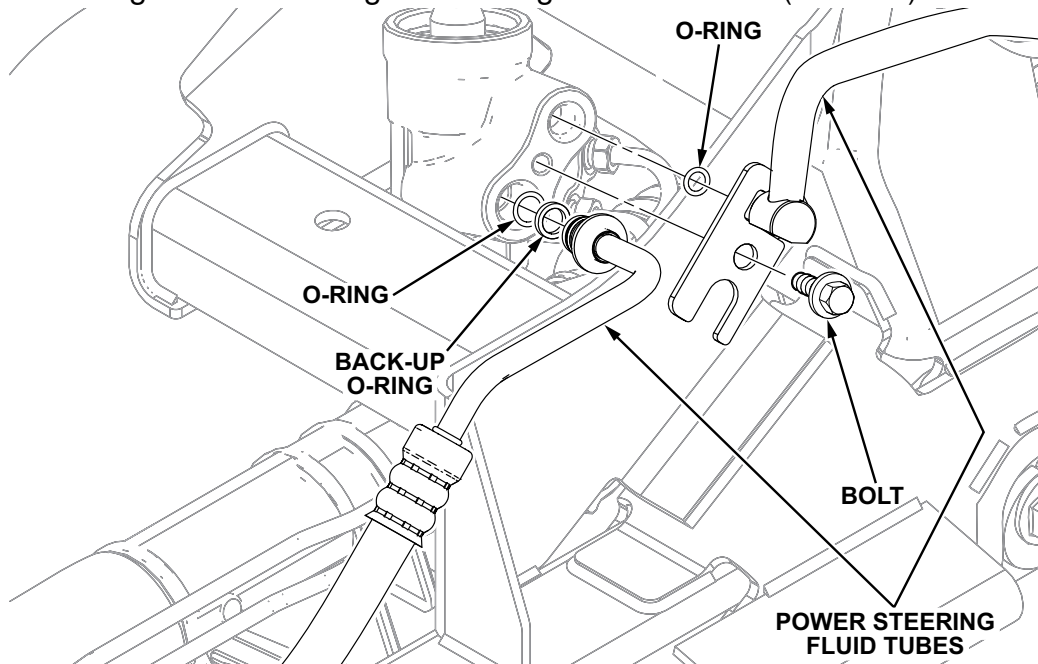

Figure 6: Power Steering Hose Connections
16. Install new O-ring seals on the power steering pressure line and the lower power steering rack-to-cooler hose (See Figure 6).